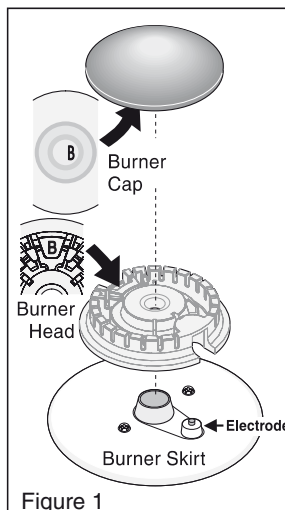
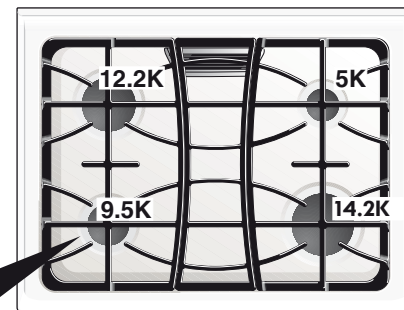

Figure 1
Figure 2
3. To replace the Burner Heads & Caps, match the letters located under center of Burner Caps with the letters located inside Burner Heads (Figure 1).
4. Match Burner Skirts with Burner Heads and Burner Caps (see Figure 1). Replace the Burner Heads and Caps on cooktop (see Figure 2). Carefully align the Electrodes into slot or hole of each Burner Head (Figure 3). Note: The Burner Heads should sit flat on Cooktop Burner Skirts.